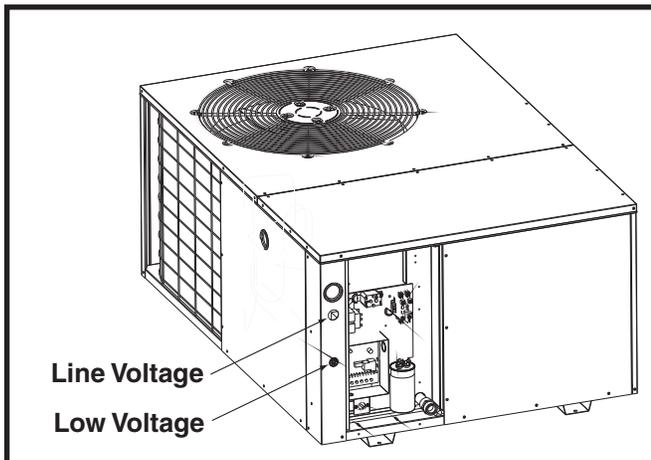

Figure 6. Power Entry
- Provide power supply for the unit in accordance with the unit wiring diagram, and the unit rating plate. Connect the line-voltage leads to the terminals on the contactor inside the control compartment. Extend leads through power wiring hole (Figure 6). Connect **L1 & L2** directly to the contactor.
- The low voltage wires must be properly connected. Route 24V control wires through the sealing grommet (Figure 6, page 9) near the power entrance. Connect the control wires to the defrost board and blower relay wire (Figure 7). Recommended wire gauge and wire lengths for typical thermostat connections are listed in Table 2.